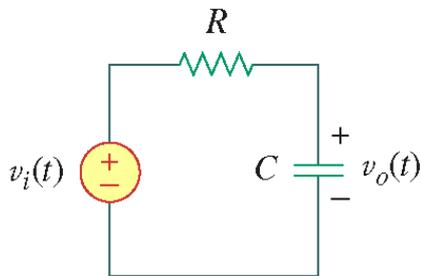

Figure.5
The schematic is shown in Fig.5. We assume that the magnitude of V1 is 1 and its phase is zero; we enter these as the attributes of V1.
**Practice Problem:** For the circuit in Fig. 5, replace the capacitor  $C$  with an inductor  $L = 4 \text{ mH}$  and obtain the magnitude plot (both linear and Bode) for  $v_o$  for  $10 < f < 100 \text{ MHz}$ .